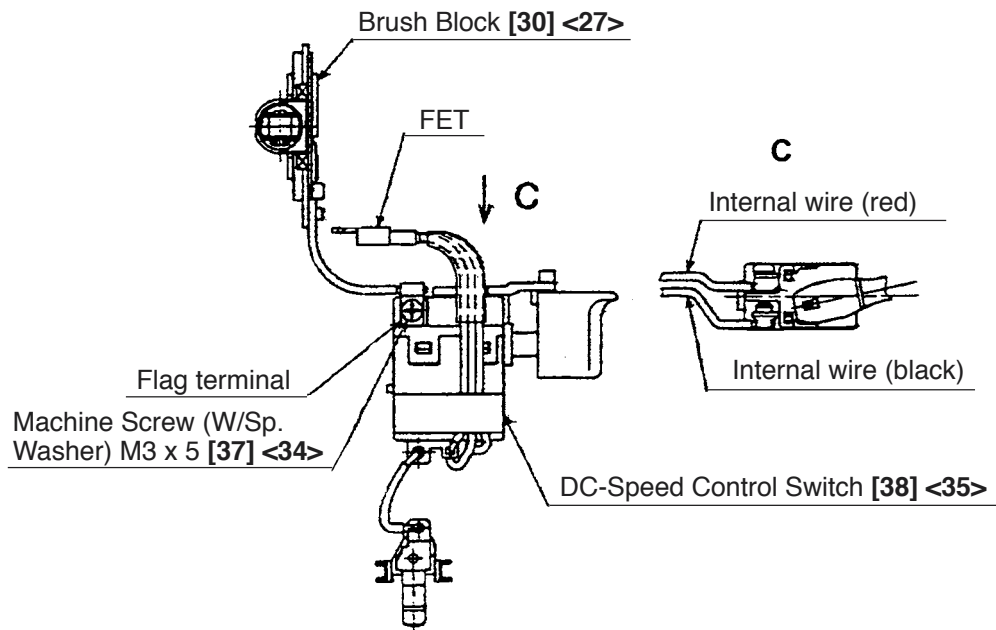

Fig. 12
(1) Reassembly of the housing assembly
- (a) Be sure to follow the wiring diagram (Fig. 12) for proper wiring.
- (b) When connecting the internal wires of the Brush Block [30] <27> to the DC-Speed Control Switch [38] <35>, fasten them with the Machine Screw (W/Sp. Washer) M3 x 5 [37] <34> paying attention to the direction of the flag terminal (Fig. 12).